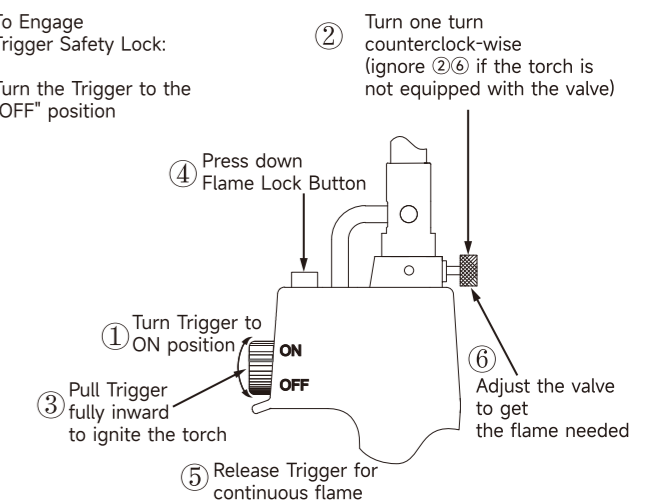

Figure 6-Trigger Safety Lock and Flame Lock Operation
2. Make sure the Trigger Lock is not engaged in the "ON" position (see Figure 6, page 6).
3. Make sure the torch is burning (see Figure 6)